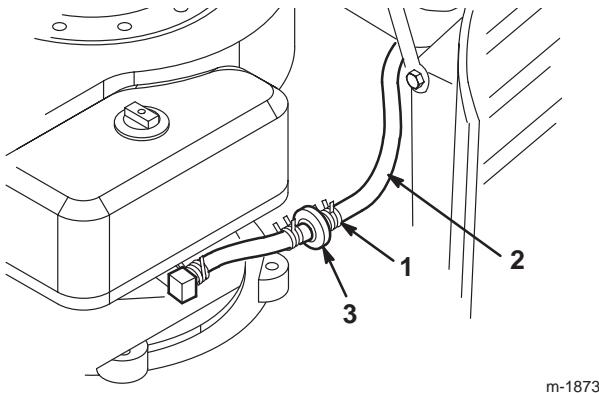

Figure 28
8. Squeeze the ends of the hose clamp together and slide it up the fuel line toward the fuel tank (Fig. 28).
9. Pull the fuel line off the fuel filter (Fig. 28) and allow gasoline to drain into a fuel container or a drain pan.
Replace the fuel filter after every 100 operating hours or yearly, whichever occurs first. The best time to replace the fuel filter (Fig. 28) is when the fuel tank is empty. Never install a dirty fuel filter after it has been removed from the fuel line.
7. Squeeze the ends of the hose clamps together and slide them away from the old fuel filter (Fig. 28).